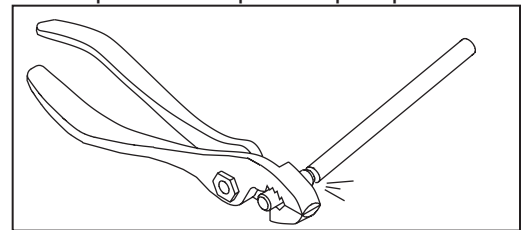

Figure 3: Breaking the Trip Rod
NOTE: If trip rod length is excessive, loosen the locking screw and remove the trip rod from the trip lever. Using pliers, break off the one (1) inch long notched section (see Fig. 3). Reinstall trip rod and repeat Step 11 procedure.
NOTE: If trip rod length is excessive, loosen the locking screw and remove the trip rod from the trip lever. Using pliers, break off the one (1) inch long notched section (see Fig. 3). Reinstall trip rod and repeat Step 7.